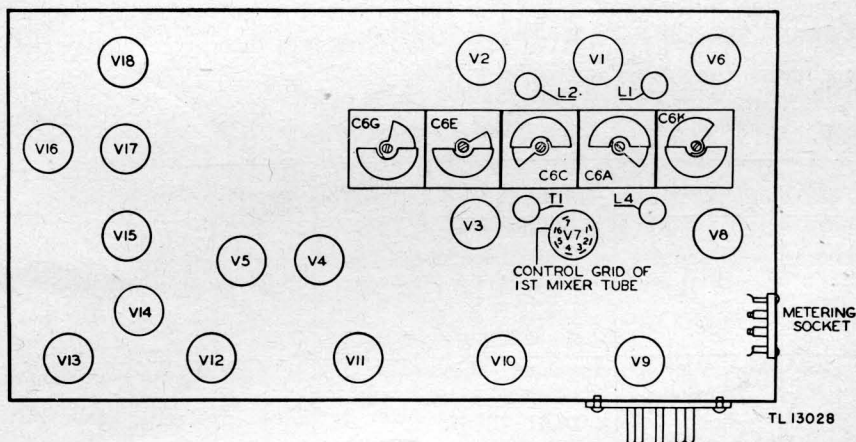

Figure 86. Radio Receiver and Transmitter BC-1000-A, alignment instruction detail—bottom view.
d. ALIGNING INTERMEDIATE-FREQUENCY AMPLIFIER. (1) With the VTVI VOLTAGE SELECTOR SWITCH SW1 set in the 4.5-volt position, open the shadow angle of VTVI by adjusting the calibrate knob.
(2) Insert the test probe in pin No. 2 of the metering socket and fasten the alligator clip to the chassis.
(3) Connect Oscillator VO-6-( ) by fastening one alligator clip on the flexible lead of the terminal box to the chassis, and the other alligator clip to the grid (pin No. 6) of the first mixer tube V7. (See fig. 86.)
(4) Set the HI-LO switch of the oscillator terminal box (dummy load) to the LO position.
(5) Increase the output by turning the attenuation control (marked INCREASE) of the oscillator to the right just far enough to change the angle of the shadow. If there is no indication, set the HI-LO switch of the oscillator terminal box to HI. If there still is no indication, disconnect Oscillator VO-6-( ), and set L6-2, L6-1, L5-3, L5-2, and L5-1 so that the adjusting screws are extended approximately ¼ inch above the locknuts. With the receiver turned to full volume, adjust the
*g. ALIGNING MASTER OSCILLATOR.* (1) Use the INDICATOR ADJUSTMENT to center the dial indicator line in the CHANNEL window.
(2) Turn the TUNING knob until C between channels 36 and 37 is directly under the indicator line. Press the switch on Handset TS-15-( ) and, with the handset to the ear, adjust trimmer C6G for zero beat. (See fig. 86.) The proper rotor-plate position is about three-fourths meshed. Check calibration on channel 15. If zero beat is not obtained on channel 15, oscillator inductance must be adjusted. (See par. 111.)
*h. ALIGNING DOUBLER.* (1) With the test probe free, set the VTVI VOLTAGE SELECTOR SWITCH to the 30-volt position and, by adjusting the calibrate knob, open the indicator eye to approximately 90°.